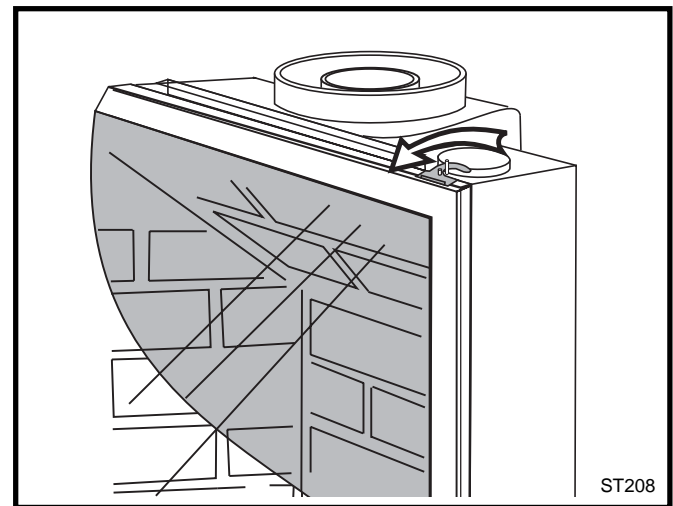

Fig. 13 Swivel the latches to release the glass frame.
- Swing open the swiveling latches at the top left and right corners of the glass frame. (Fig. 13)